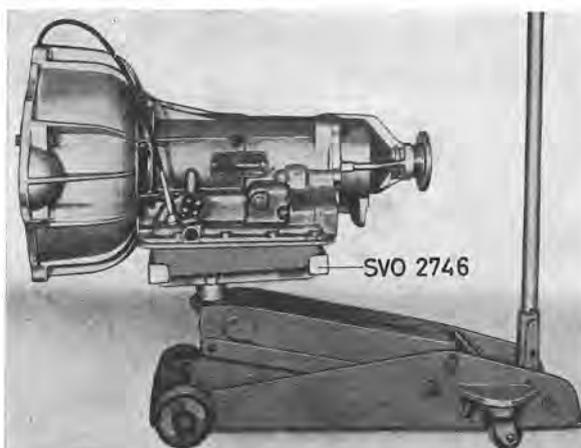

Fig. 4-76. Fixture for transmission
8. Disconnect the electric cables from the starter inhibitor. Unscrew the screws for the starter inhibitor. Place a jack with fixture SVO 2746 under the gearbox. See Fig. 4-76. Unscrew the attaching bolts for the converter casing. Pull the gearbox backwards and release the guide pin on the converter at the same time. Lower and remove the gearbox.